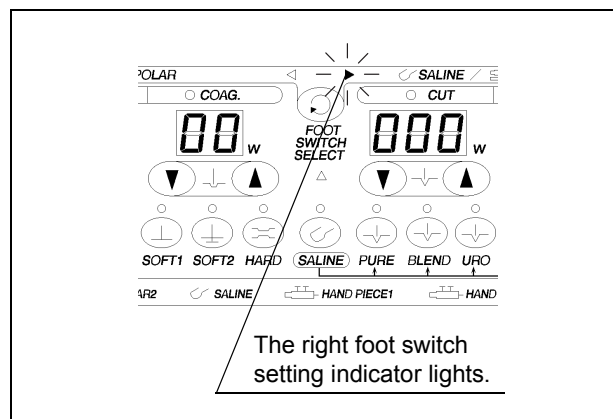

Figure 5.4
1. When the monopolar or saline output is required, press the foot switch select switch so that the right foot switch setting indicator lights (see Figure 5.4).